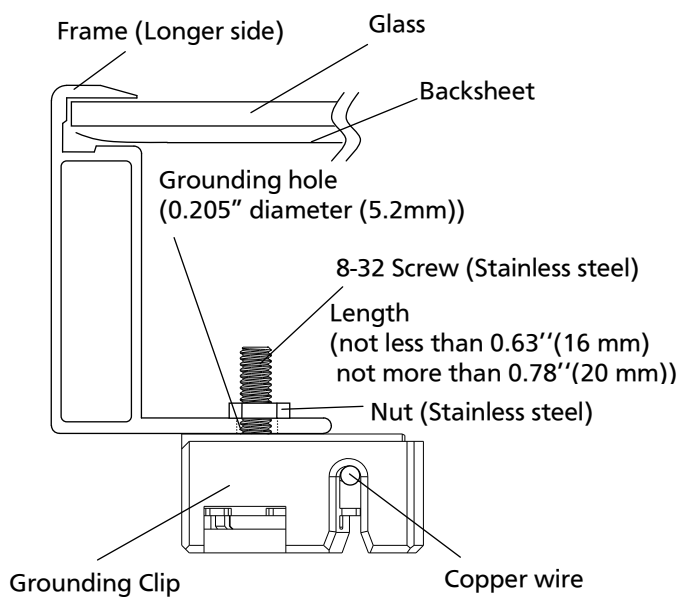

Figure 3.4
- As shown in Figure 3.4, place the grounding clip onto the module frame.